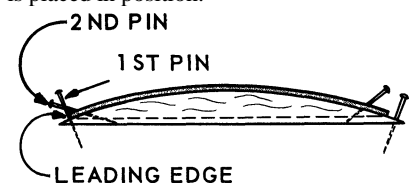

FIGURE 4
**Step 7.** Pin the ribs of each panel in place on your flat table. Insert the pins at the leading edge as shown in Fig. 4, so the leading edge of the sheet will fit tight against the pins when the sheet is placed in position.
**Step 9.** Pin the leading edge of the sheet in place with a second pin, as shown in Fig. 4, at all the ribs, then gently press the sheet down to fit the rib curve. Pin the trailing edge down. Let dry.